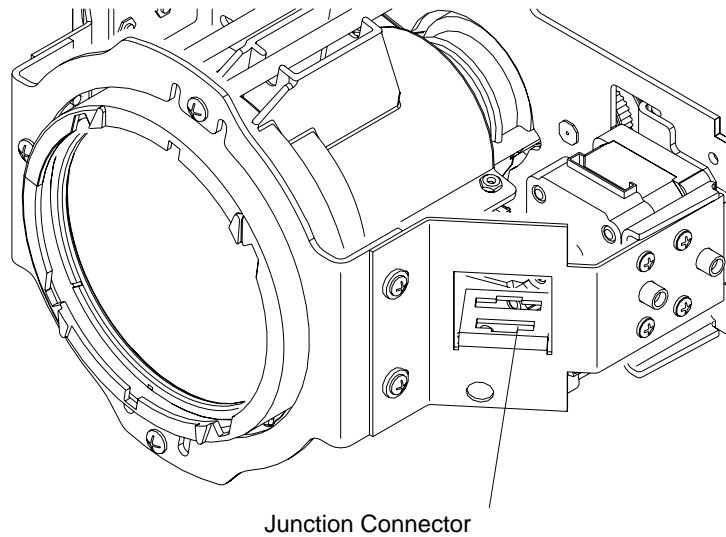

Figure 2-11: Disconnecting Edge Motor Wiring
Step 6. At side rail, disconnect edge motor wire connector from junction connector. **Figure 2-11.**